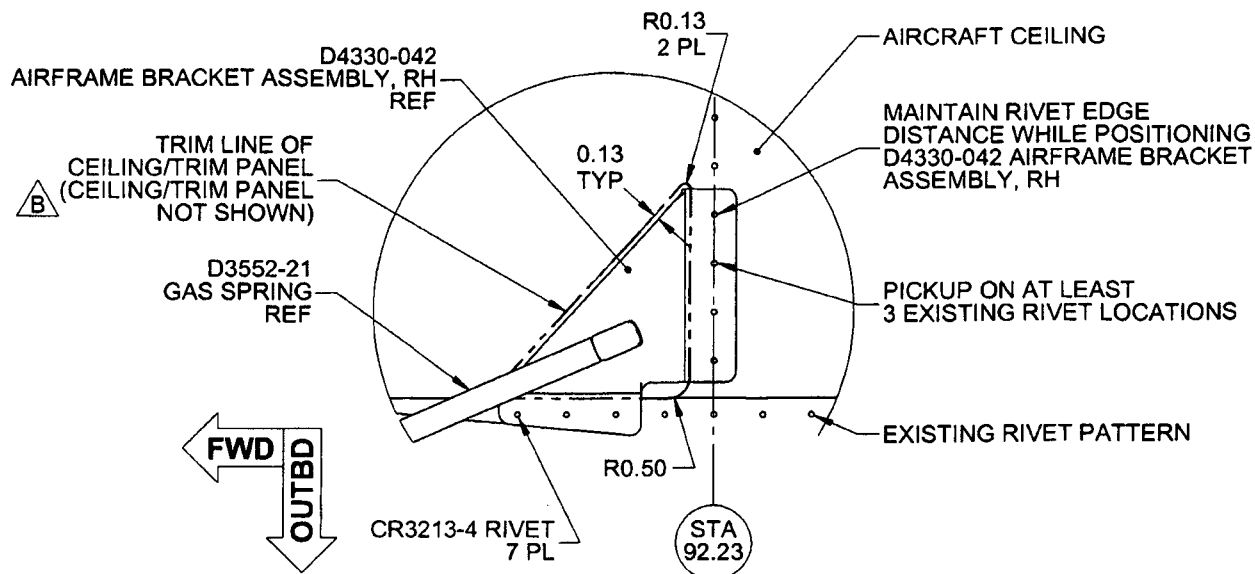

FIGURE 3: LOCATION OF D4330-042 AIRFRAME BRACKET ASSEMBLY
8. Locate D4330-042 Airframe Bracket Assembly, RH on the aircraft ceiling per Figure 3. Transfer drill #30 ($\varnothing 0.129$) holes from the ceiling to D4330-042. Deburr holes.
11. Apply a thin layer of Proseal 890 (or equivalent) to faying surface of the D4330-042/-3 brackets. Install the D4330-042 Airframe Bracket Assembly, RH using CR3213-4 rivets as shown in Figure 3. Install D4330-3 Door Bracket using hardware as shown in Figure 6.
12. Pre-install the ceiling or trim panels that were removed in Step 1 and transfer mark contour of D4330-041 or -042 as shown in Figure 3 (SHT 6). Remove ceiling or trim panels and perform cutout to clear D4330-041 or -042. Touch-up finish of ceiling or trim panels cutout area in accordance with aircraft maintenance manual and re-install any ceiling or trim panels.
8. Locate D4330-042 Airframe Bracket Assembly, RH on the aircraft ceiling per Figure 3. Transfer drill #30 ($\phi 0.129"$) holes from the ceiling to D4330-042. Deburr holes.